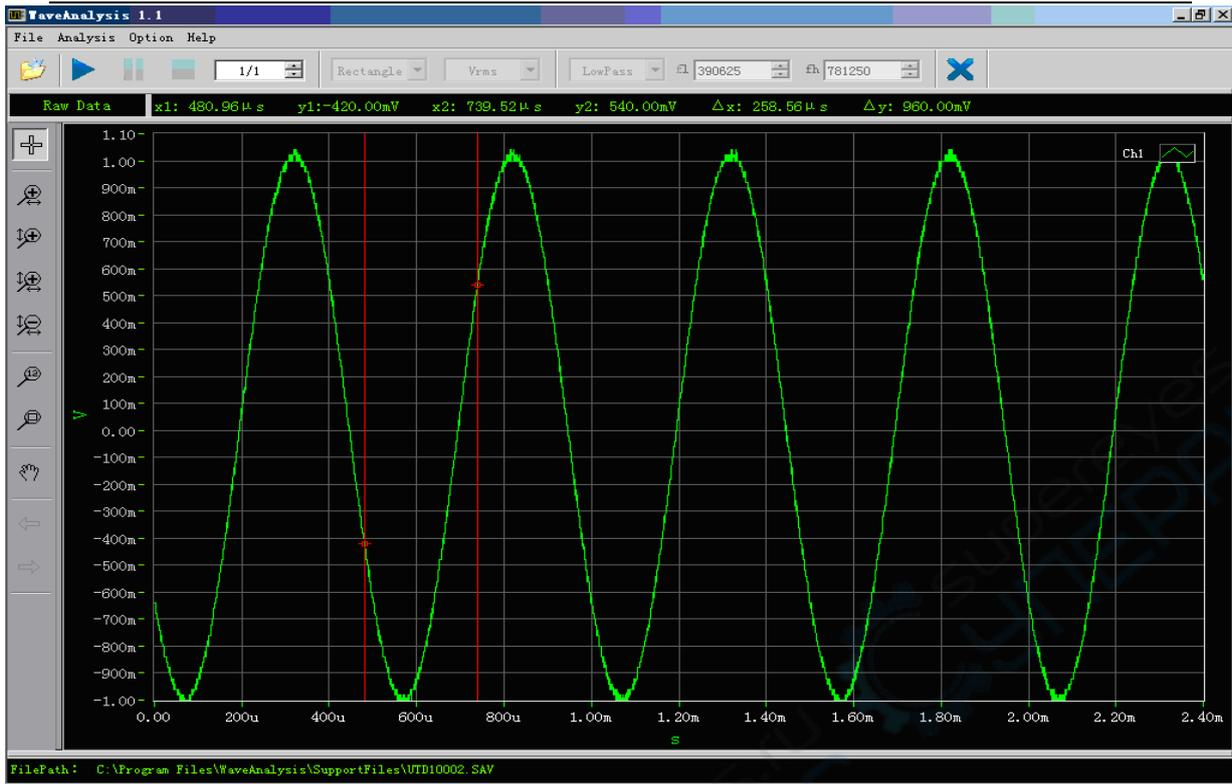

Fig. 3-3 Loading original data
**Loading .SAV documents :** As shown in Fig. 3-3, the document being loaded is an original waveform data file (.SAV document). A .SAV document is a waveform document saved by the oscilloscope.